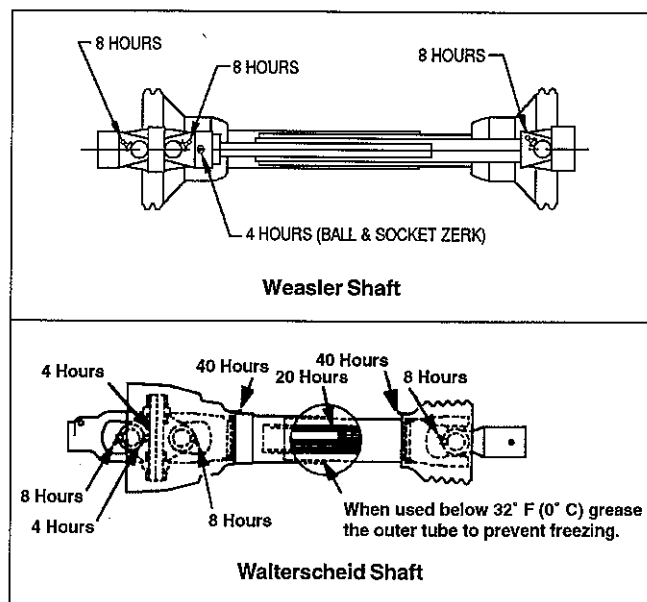

figure 40
Lubricate the constant velocity (CV) drive shaft with high-quality grease to extend the life of the driveline. See figure 40 for intervals and locations.